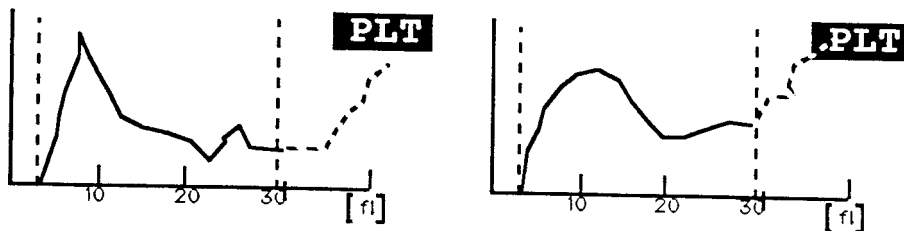

Figure 1-3 PLT Distribution at Decreased Platelets
- Specimens having low concentration of platelets may report incorrect PDW and MPV. Operator is requested to confirm the platelet count by the reference method. See Figure 1-3.
- Specimens containing microcytic RBC may affect the platelet count and the PLT distribution. See Figure 1-3.
Both platelet counts are approximately 31,000/ μ L. The specimen in the left of Figure 1-3 includes slightly smaller platelets and partial aggregation of platelets. The specimen in the right of Figure 1-3 includes macrocytic platelets and microcytic erythrocytes. The effect of the microcytic RBCs on the PLT count has been minimized by computer placement of the discriminator at the optimum position which separates PLTs from the microcytic RBCs. The particle size distribution of specimens having lower concentration of platelets provides decreased reproducibility since a fewer number of platelets are actually counted. In the cases of decreased platelets, partial aggregation of platelets occurs with considerable frequency, and erythrocyte fragments and microcytic erythrocytes may be expressed within the PLT particle size distribution. Therefore, the PLT particle size distribution should be used after understanding that the reliability of distribution is reduced and the overlap with the RBC distribution is emphasized when the platelet count is less than 50,000/ μ L. Note that the peak of the PLT histogram shown in the right of Figure 1-3 is not expressed 100%.